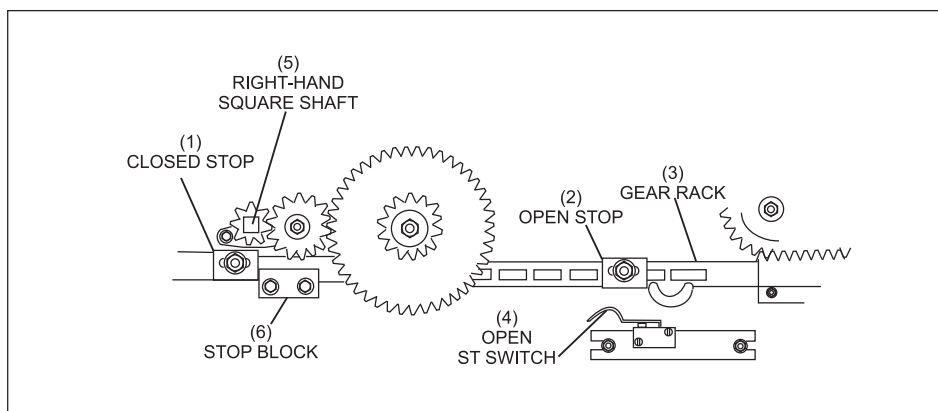

Figure 8-6. Spotting Tongs Closed.
3. Turn the spotting tong square shaft until the spotting tongs are completely closed. The "ST" switch should be open and the closed stop should be against the stop block. Refer to Figure 8-6.